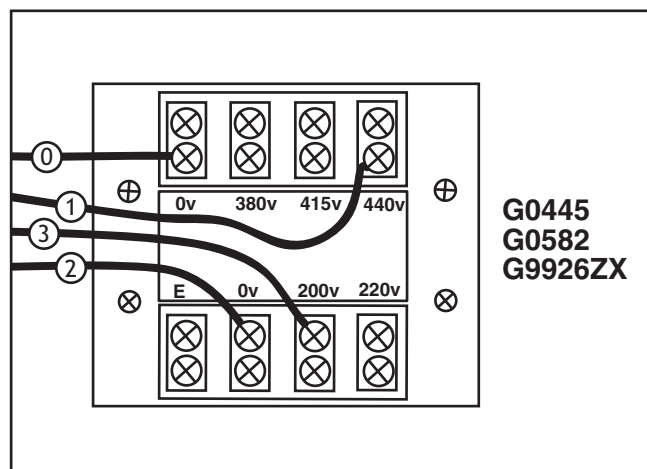

Figure 7. 440V transformer connection.
3. On the transformer, remove the wire labeled "1" connected to the 220V terminal for your model of sander, and connect it to the 440V terminal as shown in **Figure 7**.